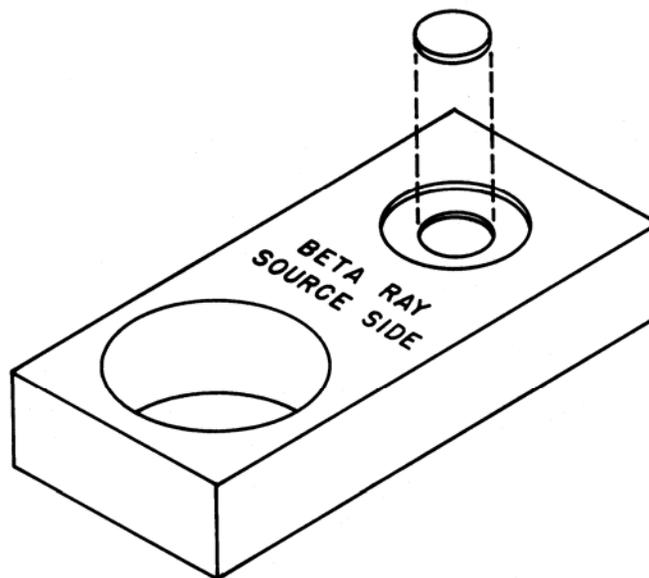

Figure 4-1. Standard Geometry Drawer Inverted to Show Recess for Beta Disk Sources
Calibration of the beta scintillation detector requires a standard button source of known beta activity for which a known count rate is recorded in a standard geometry. The standard geometry (test fixture, P/N 844-36) is used to position the detector and button source with respect to each other (Figure 4-1). The detector should be connected to the readout with all the cable that will be in place during normal operation since the high voltage setting is slightly cable dependent. At the readout, set the discriminator level to the level indicated on the data sheet (normally 0.2 VDC).
2. Place the ^{90}Sr button source, blank side up (P/N 844-36-14), on the slide in the standard geometry (Figure 4-1).